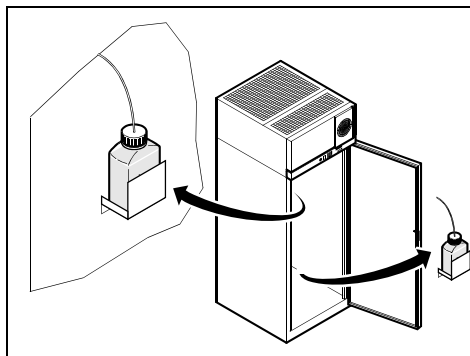

Figure 1. Sensor Bottles (51 ft³ Models)
- Unscrew 1/2" bolt until there is the required clearance between floor and head of bolt as shown in Figure 1
Undercounter models have one factory-installed sensor bottle. In medium-sized models (13.2, 23.0, and 28.7 ft³) there are two sensor bottles, positioned in the lower right of the side of the cabinet. 51.1 ft³ models have top and bottom sensor bottles, as shown in as shown in Figure 1.